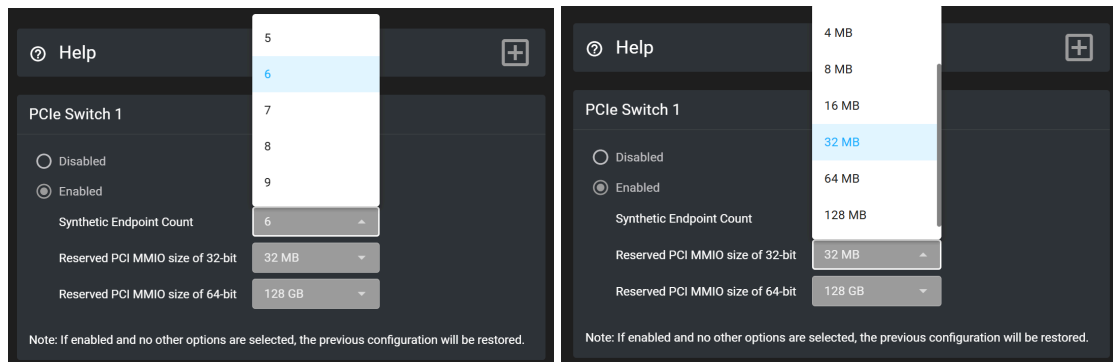

Figure 98. Configuring Endpoint Count and PCI MMIO Sizes
- o Select sizes from the dropdown menus (refer to Figure 98).